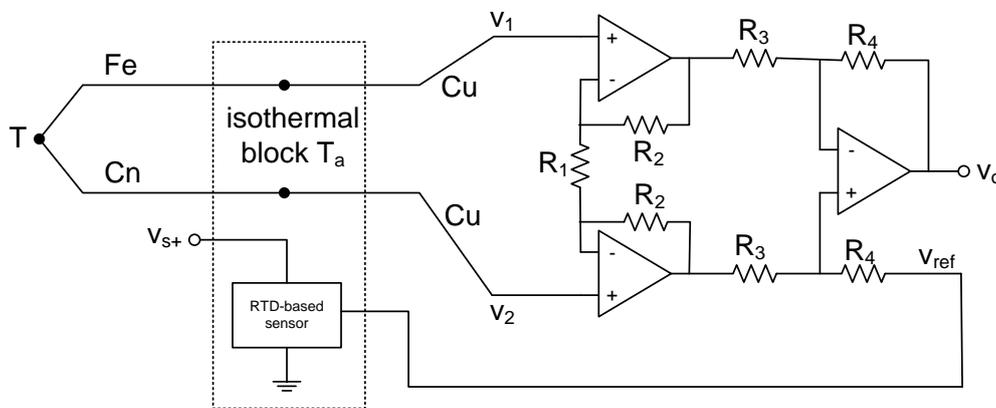

Figure 5: Compensation with a RTD-based sensor and instrumentation amplifier.
The thermocouple in Figure 5 contains a reference junction compensation based on a RTD temperature sensor. The output voltage of this sensor (v_{ref}) is given by the following transfer function: $v_{ref} = 10mV/^{\circ}C \cdot T_a$ with T_a the environmental temperature at the reference junction. The output of the reference temperature sensor is connected to the reference input of the instrumentation amplifier. It holds for this instrumentation amplifier:
- (a) There are three important law that you can use when analysing thermocouples, namely the law of the homogeneous circuits, the law of intermediate metals, and the law of intermediate temperatures. Show using these laws that the voltage across the thermocouple shown in Figure 5 is equal to: